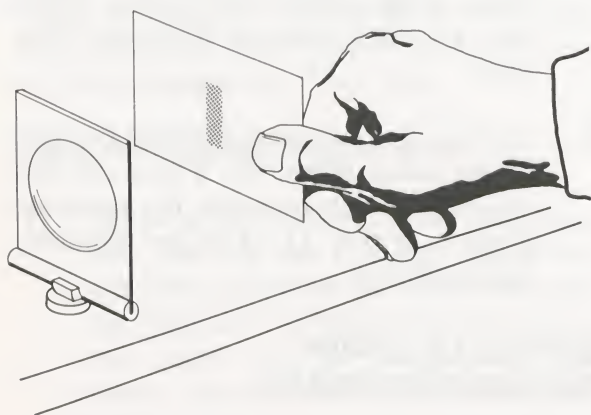

Figure 9. The beam can be followed from source to screen using this method. The maximum amount of light should be transmitted by each component.
- B. You also want the lens to focus the most light possible. Find the beam of light coming from the slit by letting it hit another 3 × 5 index card you hold. See Figure 9. Make sure that the lens is in the center of this beam. If it isn't, slide it sideways into the center, but do not move it any closer to the slit.